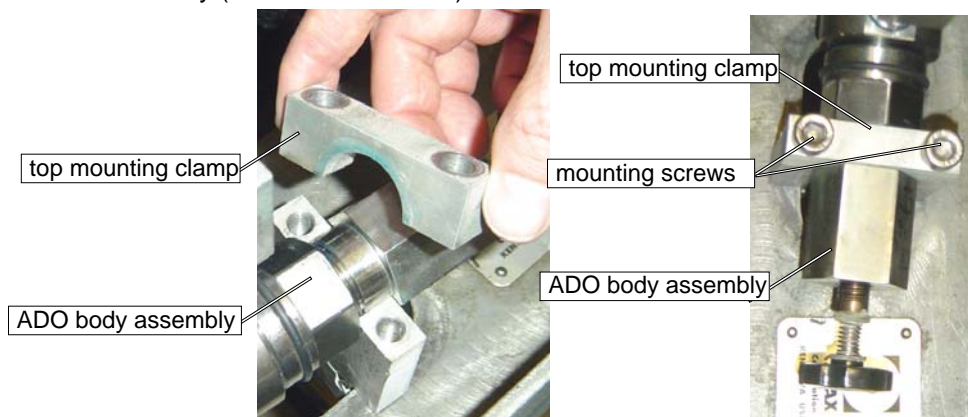

Figure 24: Install the Top Mounting Clamp to Secure the ADO
7. Tighten the two ADO mounting screws (Figure 24).